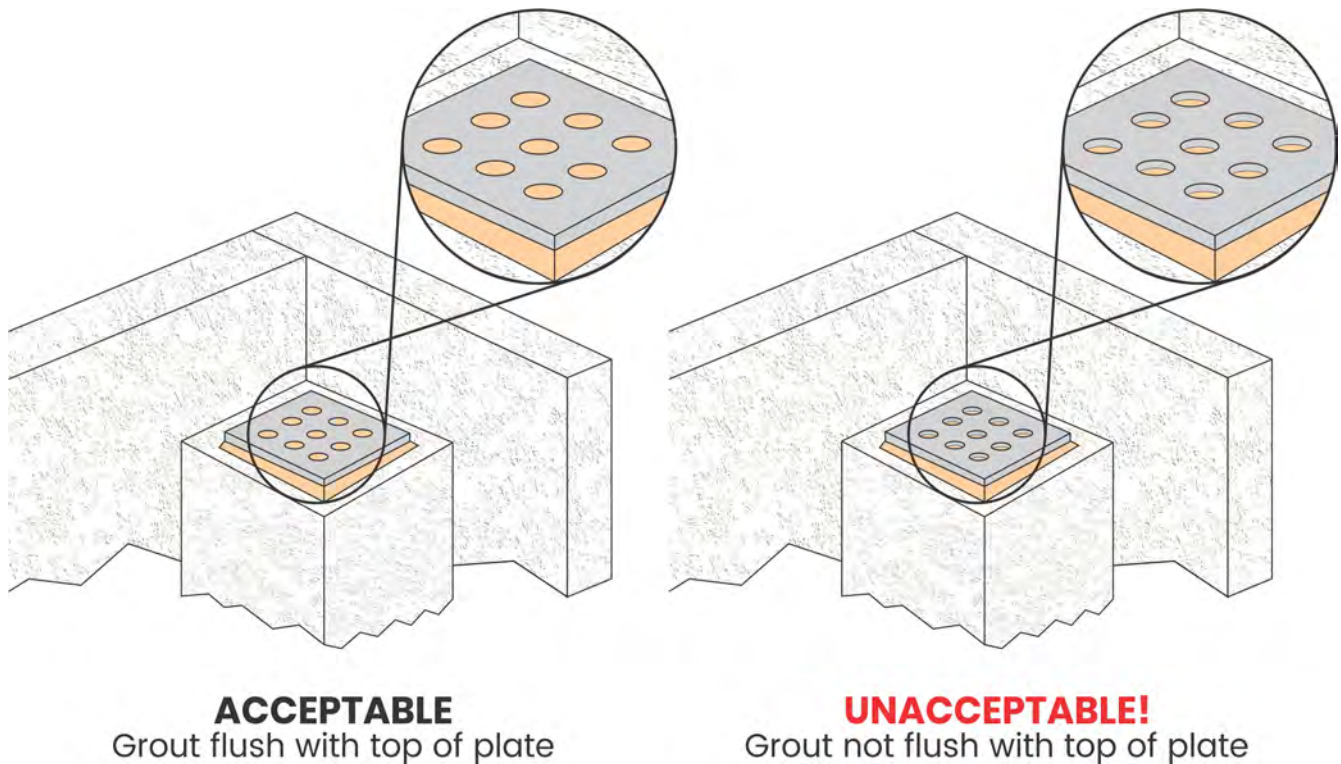

Figure 3
6. If grout plates are used, they must be flat, (a 125 Blanchard ground or shot-peened finish is recommended), anchored and grouted into place. It is *critical* that all grout access holes are filled with grout until the grout is even at the top of the plate as shown in Figure 3. Any hole or gap under the element will cause uneven loading and the element will not function as designed.